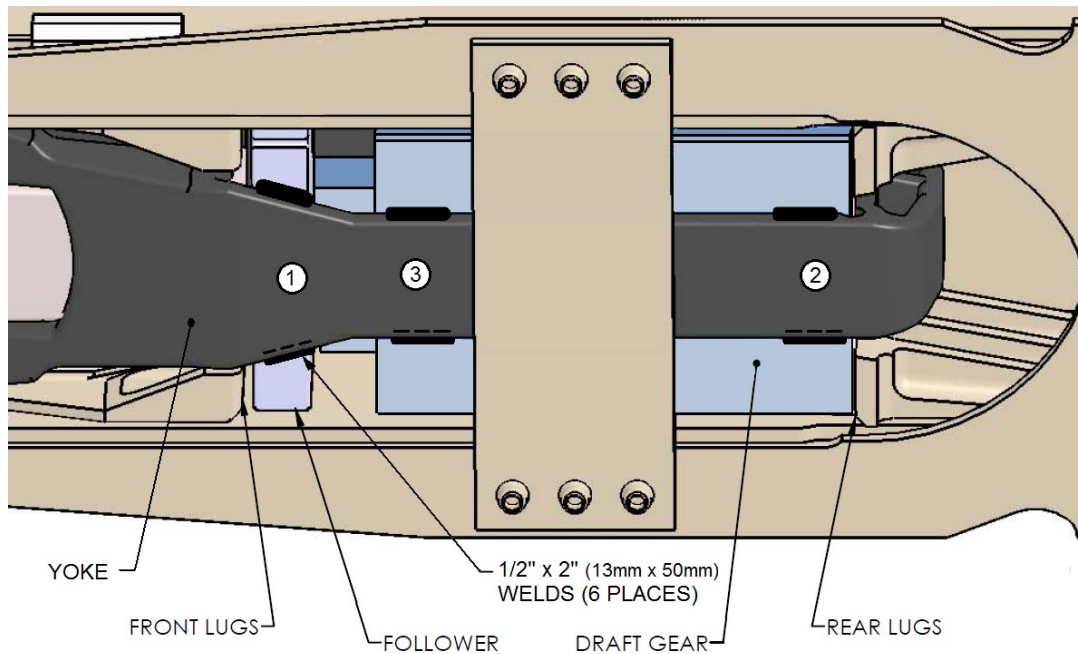
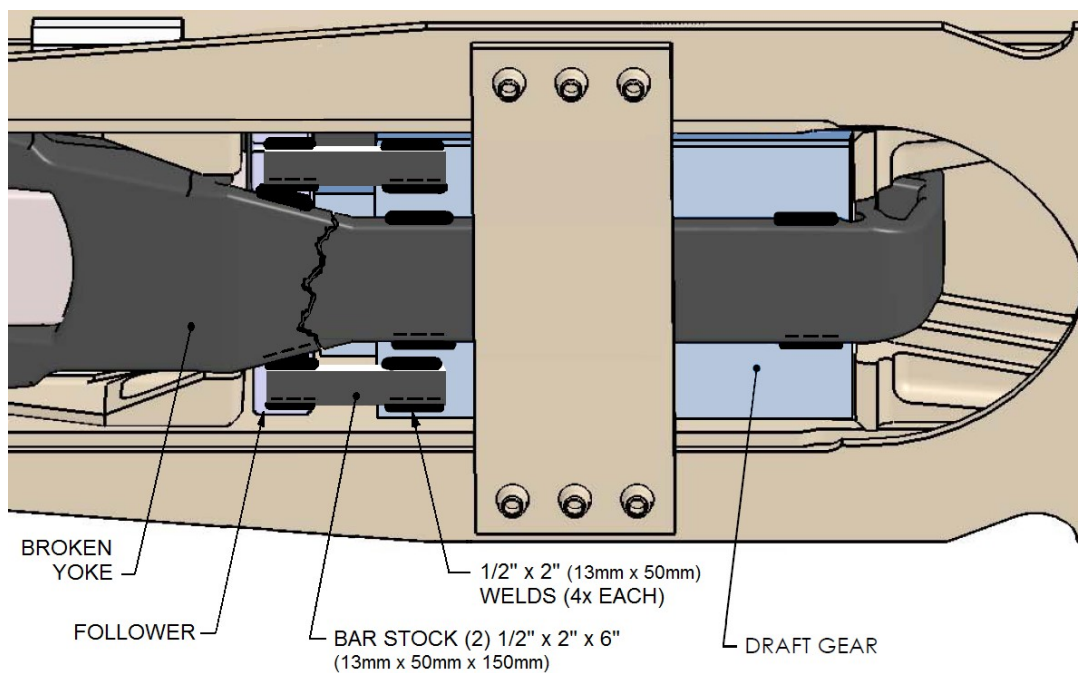

Figure 3.2.3a: Welding Yoke to Gear and Follower
Figure 3.2.3b: Broken Yoke
3.2.3 Securely weld the follower and then draft gear housing to the lower yoke strap using strong intermittent welds (see Figure 3.2.3a). If the yoke strap is broken, suitable bar stock should be selected and welded to both the follower and draft gear housing or yoke to securely contain the draft gear (see Figure 3.2.3b).